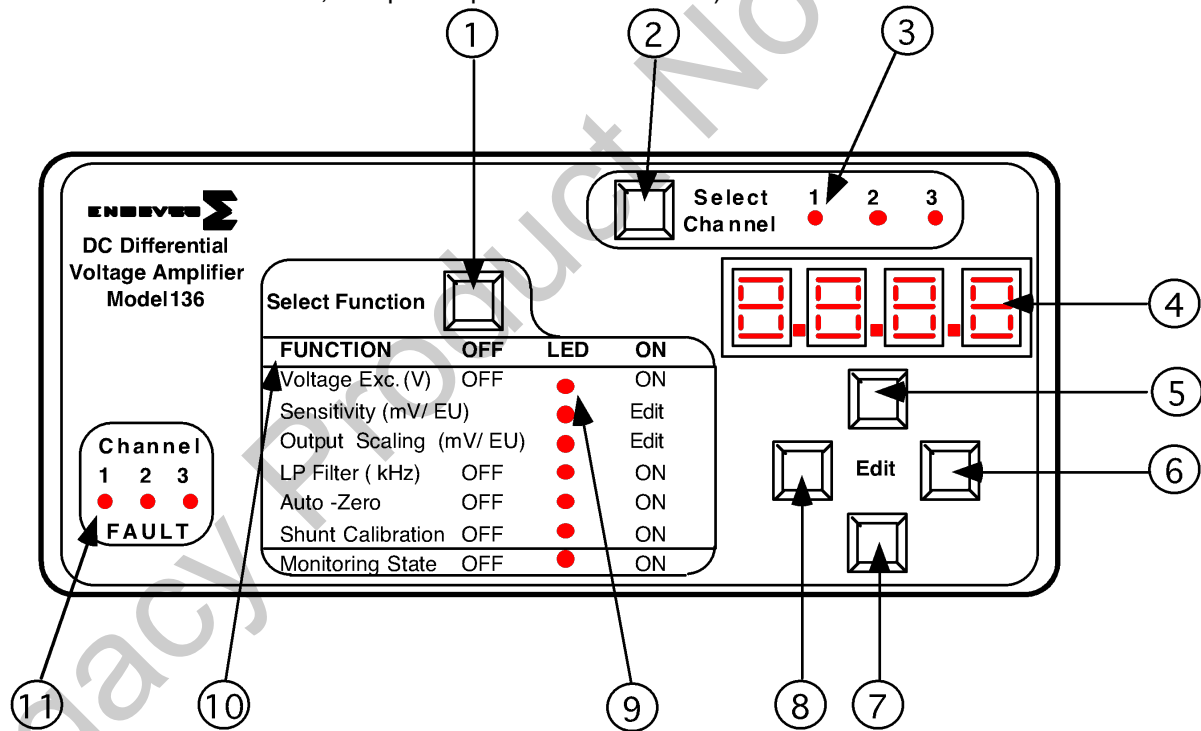

Figure 1
The Endevco Model 136 can be manually programmed from the front panel (Figure 1) by means of a "Select Channel" push-button, three (3) "Channel LEDs", a "Select Function" push-button, seven (7) "Function LEDs" indicating which function has been selected by the "Select Function" push-button (referred to in this document as the "function LEDs"), a four (4) character LED display to show the state of each function, four (4) "EDIT" push-buttons to change the entries in the LED display, and three (3) LEDs indicating if there are any faults in any of the channels (referred to in this document as the "Fault LEDs").
Shown in Figure 1 is the Model 136 front panel. The front panel is a Mylar overlay, adhesively attached to the front panel aluminum plate. The Mylar overlay has cutouts for the six push buttons, and clear windows for 13 LED's and the 4-digit panel meter. Each push button and LED are described as follows:
Figure 1 Item 1, is the "Select Function" push button that controls the functions listed below it. Pressing the Select Function push button scrolls through the LED's. The function selected can be modified while the LED is flashing, located to the right of the associated function.
Figure 1 Item 2, is the "Select Channel" push button. Pressing this push button sequentially selects channels one to three, which is used for set up and display of data on the digital panel meter. The appropriate channel's LED remains illuminated until a different channel is selected.
Figure 1 Item 3, is the LED for channel one of the three channel unit. The LED illuminated corresponds to the channel that is actively being set up or data displayed on the DPM.
Figure 1 Item 4, is the digital panel meter (DPM). The DPM displays alpha-numerics for the appropriate "Select Channel" selected and is used to display the channel set up and for actual data display. The DPM has an accuracy of $\pm 10\%$. (See Section 2.4, Operation and sub-sections contained, for specific push button abilities.)
Figure 1 Items 5, 6, 7, and 8 correspond, respectively to the "Up", "Right", "Down" and "Left" Edit push buttons. These push buttons are used to change the entries on the digital panel meter and are used in conjunction with the appropriate "Select Function" parameter to be programmed. (See Section 2.4, Operation and sub-sections contained, for specific push button abilities.)
Figure 1 Item 9, is one of seven Function parameters LED's that is selectable/programmable. The flashing LED identifies the function that is actively capable of being set up or modified at that time.
Figure 1 Item 10, is a list of "Functions" that are programmable for each channel, which are selected by the "Select Function" push button and are set up or modified with the four "Edit" push buttons.
Figure 1 Item 11, are the "Fault" LED's. The illuminated LED indicates that particular channel is in the ISOTRON mode, the current excitation is on and there exists a short or open circuit for the input.
The Endevco Model 136 can be manually programmed from the front panel (See Figure 1) by means of a "Select Channel" push-button, three (3) "Channel LEDs", a "Select Function" push-button, seven (7) "Function LEDs" indicating which function has been selected by the "Select Function" push-button (referred in this document as the "function LED's"), a four (4) character LED display to show the state of each function, four (4) "EDIT" push-buttons to change the entries in the LED display, and three (3) LEDs indicating if there are any faults in any of the channels (referred in this document as the "Fault LED's").